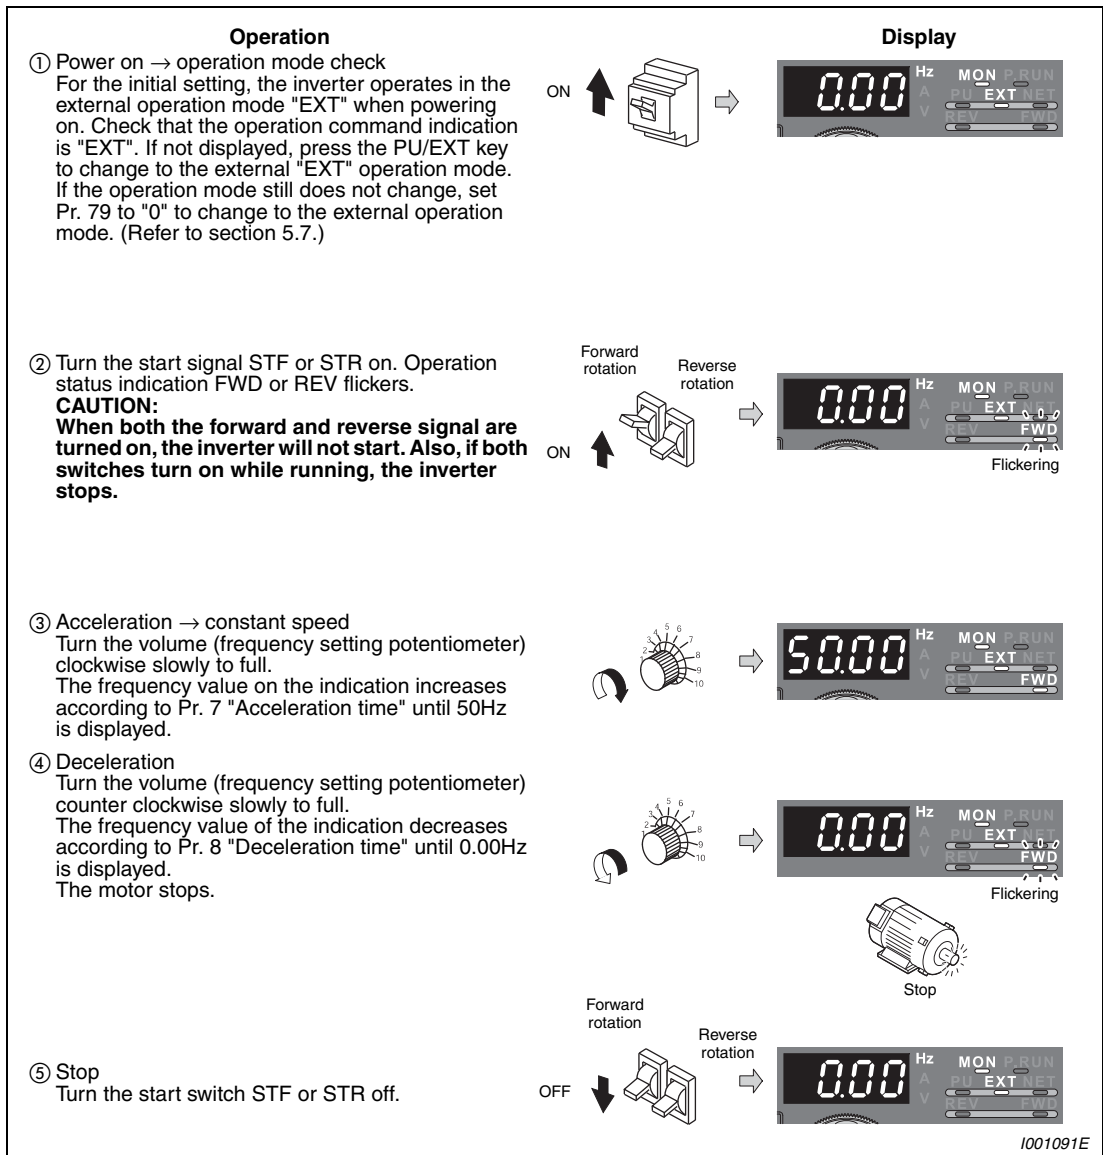

Fig. 4-25: Operate the inverter by using the analog voltage input
① Turn the digital dial until P.125 (Pr. 125) appears.	 →
② Press the SET key to show the currently set value. The initial value "50.00" (50.00Hz) appears.	 →
③ Turn the digital dial to change the set value to "40.00" (40.00Hz).	 →
④ Press the SET key to set.	 →
⑤ Press the MODE key twice to choose monitor/frequency monitor.	 →
⑥ Turn the start switch (STF or STR) on and turn the volume (frequency setting potentiometer) clockwise to full slowly. (Refer to Fig. 4-25, step ② to ⑤).